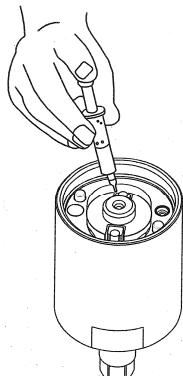

Fig. 50
- ③ Fill up the interior pulse cylinder with the pulse oil about 90% full by an injector. (Fig. 50)
- ④ Install the rear plate taken from the step 2 on the pulse cylinder. Note the corresponding positions!
- ⑤ Turn the assembled unit up side down so the rear plate is at the bottom. Then press the pulse cylinder seat all the way down to the fixed position. Make sure the corresponding positions are matched exactly.